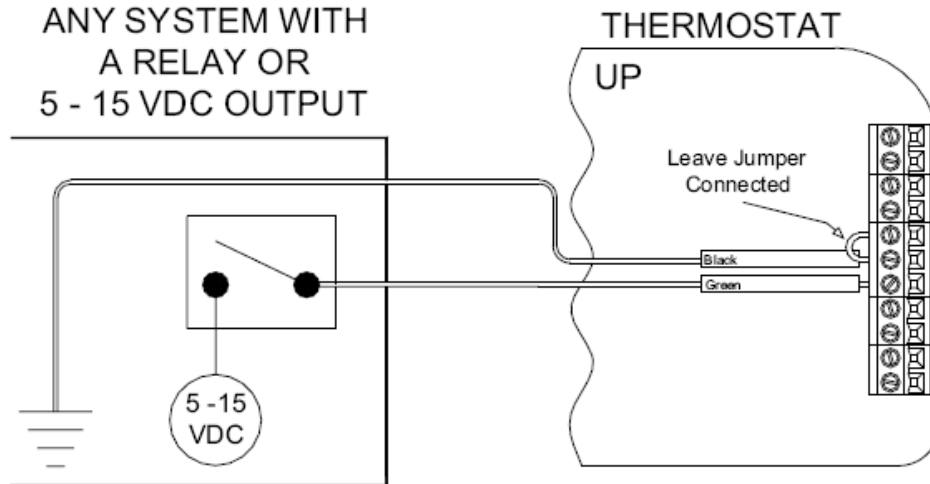

Figure 12 – Connections to a Remote Setback Switch
Run a two-conductor wire from the remote switch to the thermostat location. Make the connections to the Black and Green terminals under the section marked "Comm" on the right terminal strip - See *Figure 12*.
1. When connecting to a remote setback switch, the metal jumper between terminal labeled "N/C" and the terminal labeled "Black" on the right terminal strip must remain in place - See *Figure 12*.